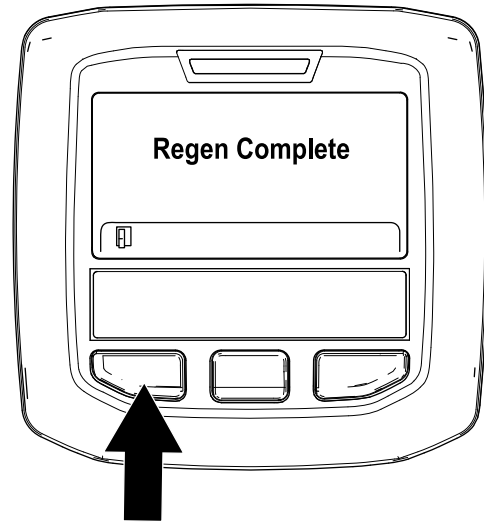

Figure 51
9. The parked regeneration is complete when the “Regen Complete” message displays in the InfoCenter. Press the left button to exit to the home screen (Figure 51).